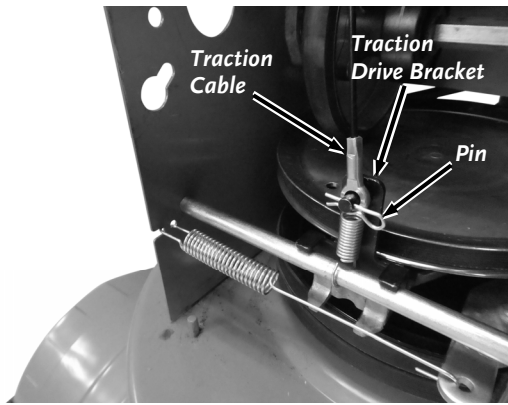

Figure 70
7. Remove the Pin and remove the Traction Cable from the Traction Drive Bracket (**Figure 70**).
10. Install the Traction Cable onto the Traction Drive Bracket and Pin (**Figure 70**).